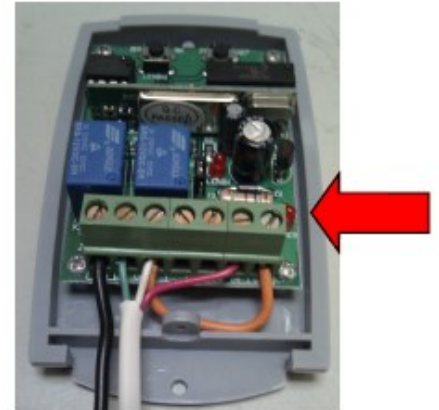

Fig. 2
6. The red power light should come on the receiver. (Fig 2)